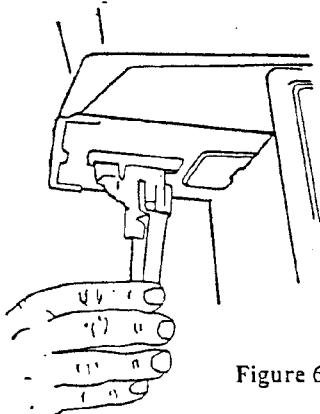

Figure 6
- a. Push handle assembly straight up through rectangular hole until clips snap into place (see Fig. 6).